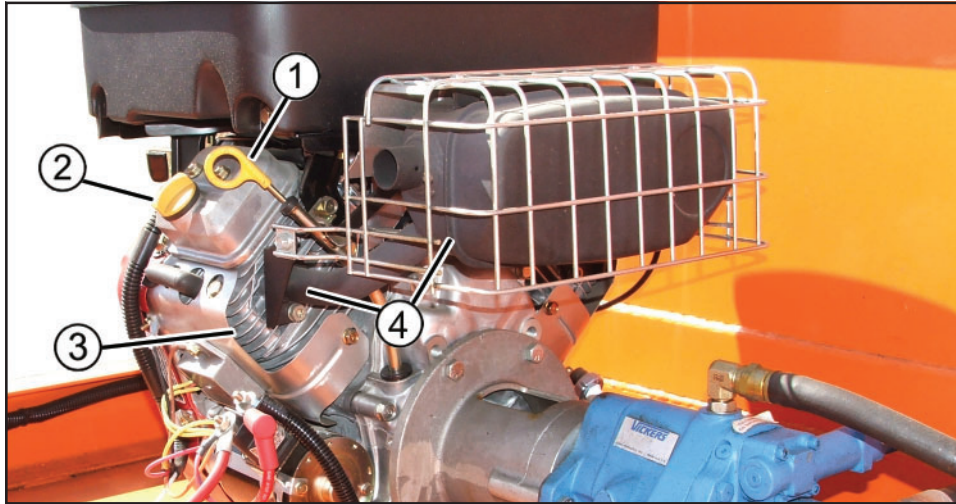
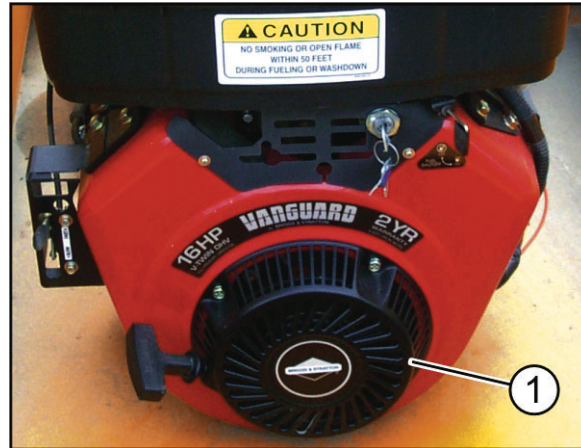

Figure 5-3
Figure 5-5
3. Pull out the dipstick (1, Figure 5-3), wipe it clean with a clean, lint-free, dry cloth, then replace the dipstick.
5. If the oil level is low, add the appropriate amount of motor oil through the filler located under the right edge of the fuel tank (2, Figure 5-3). Air cooled engines run hotter than automotive engines. The recommended motor oil for all temperature ranges is SAE 10W-30 synthetic motor oil. The use of non-synthetic, multi-viscosity oils in temperatures above 40 degrees F (4 degrees C) will result in higher than normal oil consumption. When using a non-synthetic, multi-viscosity oil, check the oil level more frequently.
1. Periodically remove chaff/debris buildup from engine. Check for signs of clogging of exposed cooling fins (3, Figure 5-3) on both sides of the engine.
3. Remove any accumulated chaff or debris around the exhaust system (4, Figure 5-3).
5. Chaff or debris may clog the engine's air cooling system, especially after prolonged service. Every 100 hours or every season, clean the cooling fins (3, Figure 5-3) on both sides of the engine. Also, remove the blower housing (1, Figure 5-5) by unscrewing the four Phillips head screws, and clean any dirt and debris from the cooling fan blades.
6. Refill the crankcase with approximately 1-1/2 quarts (48 oz., or 1.6 l) of motor oil through the filler located under the right edge of the fuel tank (2, Figure 5-3). Air cooled engines run hotter than automotive engines. The recommended motor oil for all temperature ranges is SAE 10W-30 synthetic motor oil. (Note: The use of non-
8. Shut down the engine and wait several minutes. Pull out the dipstick (1, Figure 5-3), wipe it clean with a clean, lint-free, dry cloth, then replace the dipstick.
10. If the oil level is low, add the appropriate amount of motor oil through the filler located under the right edge of the fuel tank (2, Figure 5-3).
9. Shut down the engine and wait several minutes. Pull out the dipstick (1, Figure 5-3), wipe it clean with a clean, lint-free, dry cloth, then replace the dipstick.
11. If the oil level is low, add the appropriate amount of motor oil through the filler located under the right edge of the fuel tank (2, Figure 5-3).